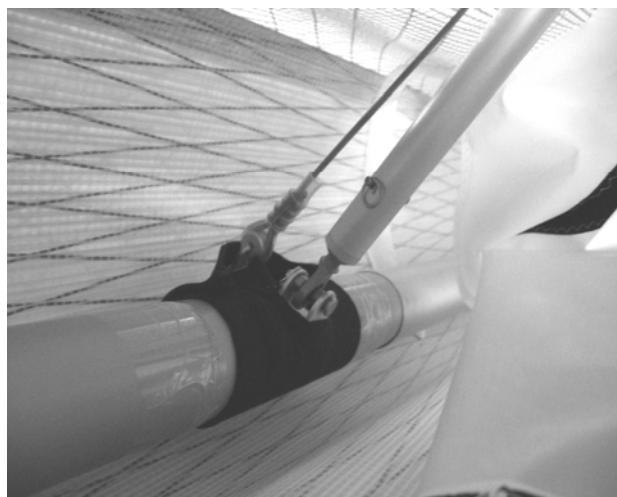

Fig. 30
1. Fully unzip the access zipper to gain access to the sprog-LE tube connection.(Fig.30)